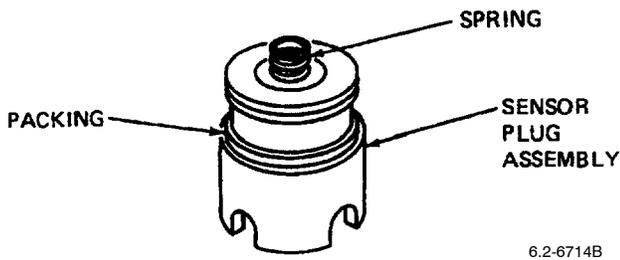

Figure 47. Presence of Sensor Plug Spring
- b. Verify presence of sensor plug spring (Figure 47). (QA)